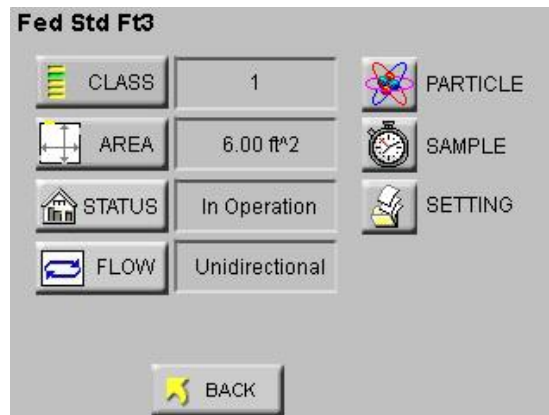

Figure 6-100 Reports Setup Screen No Locations
- When "REPORTS" are enabled, the "LOC" and "SAVE" buttons are displayed only when there are at least the minimum number of locations needed for the recipe area available. See Figure 6-100.